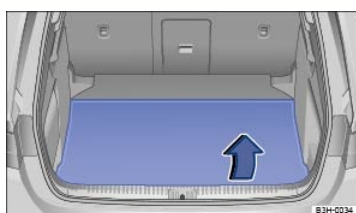

Fig. 150 In the luggage compartment: Turning over the reversible floor cover.
- Lift the reversible floor cover at the rear edge in the direction of the arrow ⇒ Fig. 150.